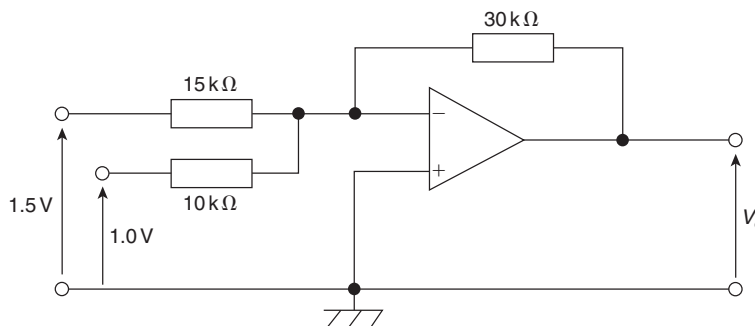

Figure RT5.2
- In the differential amplifier shown in Fig. RT5.2, determine the output voltage, V_o , when: